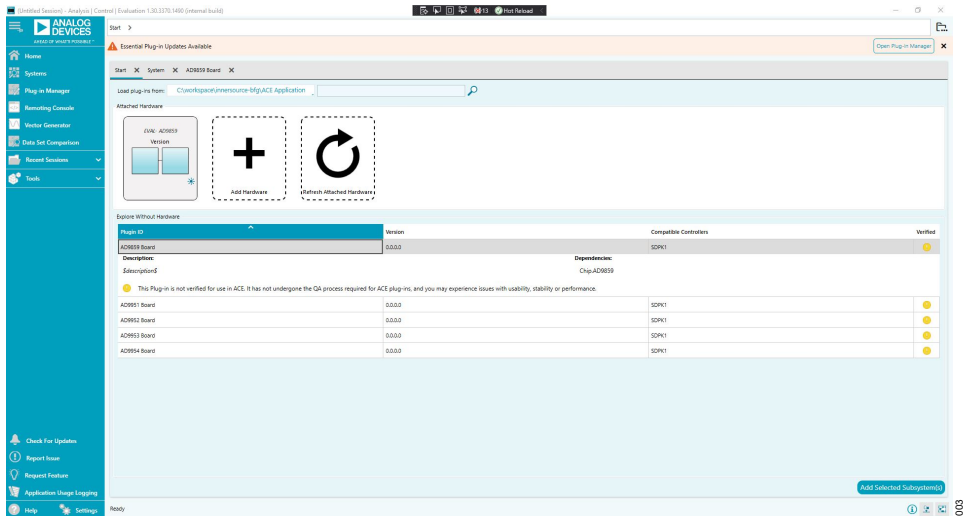

Figure 3. ACE Main Window, Attached Hardware (AD9859 Evaluation Board)
2. Under the **Select Device and Connection** tab within the **ACE Software**, select the **AD9859 Board** that appears within the **Attached Hardware** section (see Figure 3).